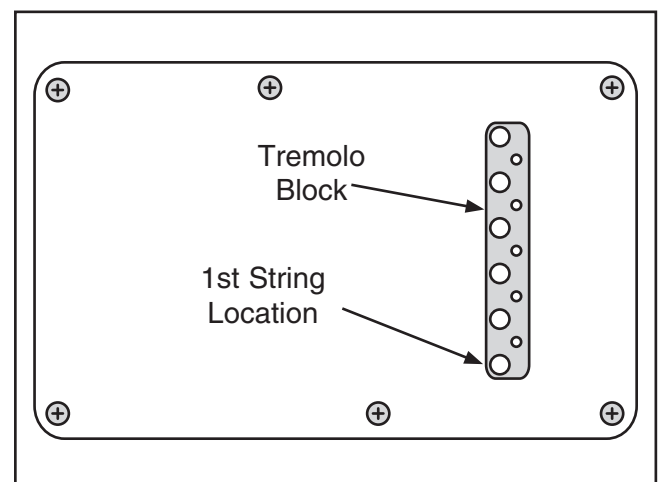

Figure 29. 1st string installed through tremolo block.
1. Slide the 1st string through the corresponding hole in the tremolo block (**Figure 29**).